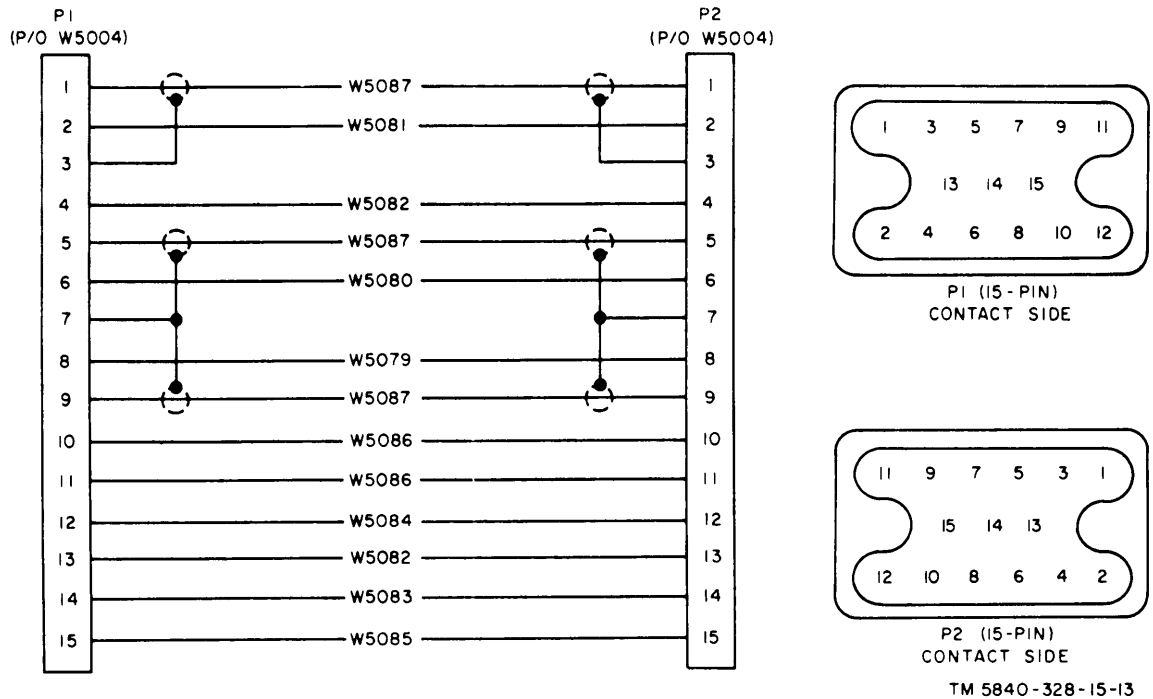

Figure 7-13. Special Purpose Cable Assembly CX-10432/PPS-5, schematic diagram.
7-10. Cable Assembly CX-10432/PPS-5 (fig. 7-13)
- (2) Make sure that ends of wires are clear of surplus solder and are neat and trim.
- (3) Feed cable end through loosened strain clamp and cable opening in shell.
- (4) With plastic sleeves retracted on wire leads, insert lead ends through eyes of designated terminals on connector body, clinching and soldering each lead as inserted.
- (5) Slip plastic sleeves along wire and over terminals.
- (6) Reassemble connector, making certain that strain clamp is tightened.
- (7) Check cable for correctness, continuity, and shorts before returning cable to service.
- c. If repairs require cable replacement, refer to figure 7-13 for wire and circuit details.
- (1) Strip end of each wire one-eighth inch.
- (2) Insert cable end through shell from clamp end.
- (3) Slip 3/8-inch long plastic sleeve over each wire. Retract to keep stripped end of wire clear.
- (4) Thread each wire lead through the eye of the designated terminal on the